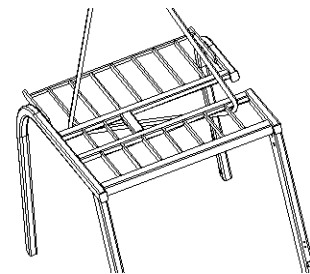

Figure 2-20
(2) Lifting description of the overhead guard as shown in figure2-20